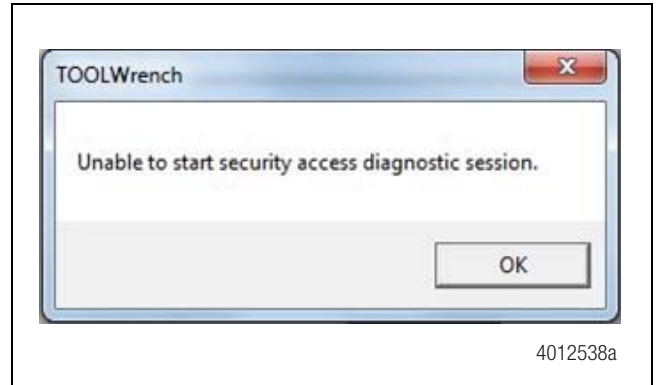

Figure 7
11. If you attempt to update an E4.X ABS ECU using “TOOLWrench 3.15.0 Tire Size Request Off and Update ABS WL Strategy.exe”, the following message will appear. Click OK. Figure 7.